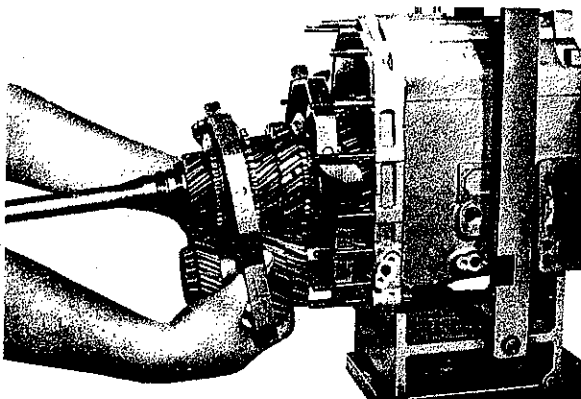

Fig. 13
9. Pull transmission shafts with shift forks completely out of housing (Fig. 13). For this purpose, swing transmission back into horizontal position. Remove drive shaft (208), cam cage (401) and blocking ring (402) from main shaft.